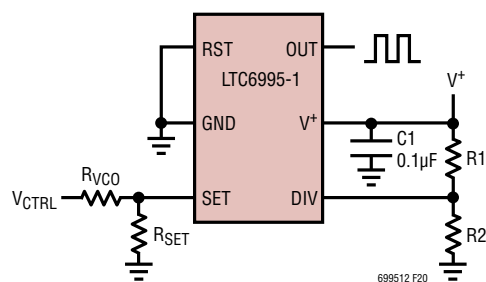

Figure 20. Voltage-Controlled Oscillator
With one additional resistor, the LTC6995 output frequency can be manipulated by an external voltage. As shown in Figure 20, voltage V_{CTRL} sources/sinks a current through R_{VCO} to vary the I_{SET} current, which in turn modulates the output frequency as described in Equation (3).